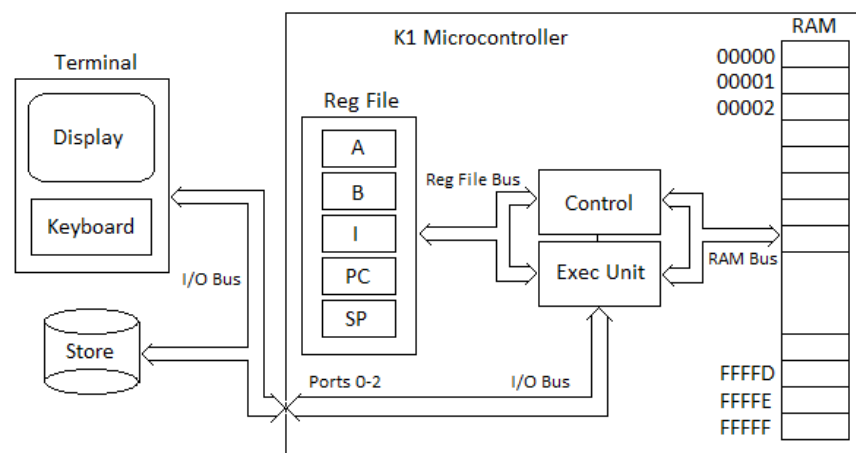

Figure 1. Block Diagram of a K1-based Microcomputer System
The **K1** is an extremely RISC 32-bit microcontroller architecture, supporting only 18 hardware instructions¹. The instructions are discussed in Section 3.3. Reference Figure 1. The K1 contains two general-purpose 32-bit registers (A and B), one 32-bit program counter register (PC), one 32-bit stack pointer register (SP), and one 32-bit instruction register (I). A **word** in the K1 system is 32-bits. The RAM contains one megawords, i.e., there are 2^{20} RAM cells with addresses 0 through $2^{20}-1$ (in hex, 00000-FFFFFF), and each RAM cell stores one 32-bit word. The RAM contains both data and program instructions. Only one program may be loaded into RAM at a time. Data and instructions may be located anywhere in the RAM, with the exception of the stack space. The stack space starts at the top of RAM, i.e., at system initialization, the SP register is initialized to FFFFF. The stack grows downward. The stack size is limited only by the RAM size and the memory locations consumed by data and instructions. At startup, the PC register is initialized to 00000. The K1 is a little-endian processor.